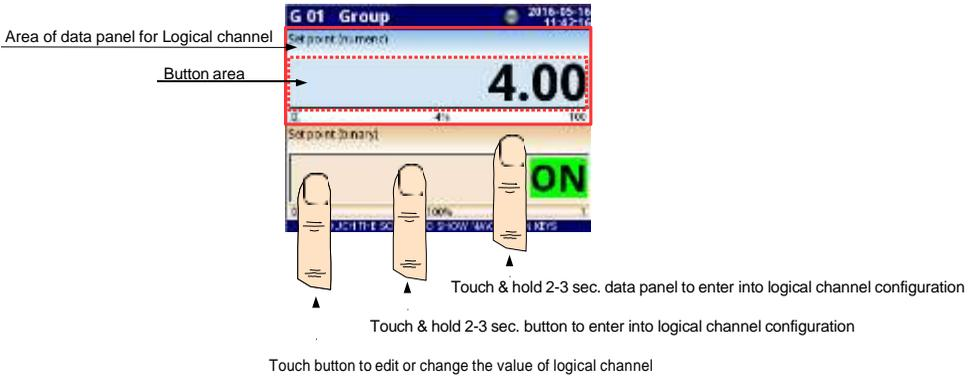

Fig. 7.54. Data panels for Logical channel in **Set point value** mode
- **Edit button** - this parameter allows you to activate the button in the panel data (see Fig. 7.54), this parameter has two options: